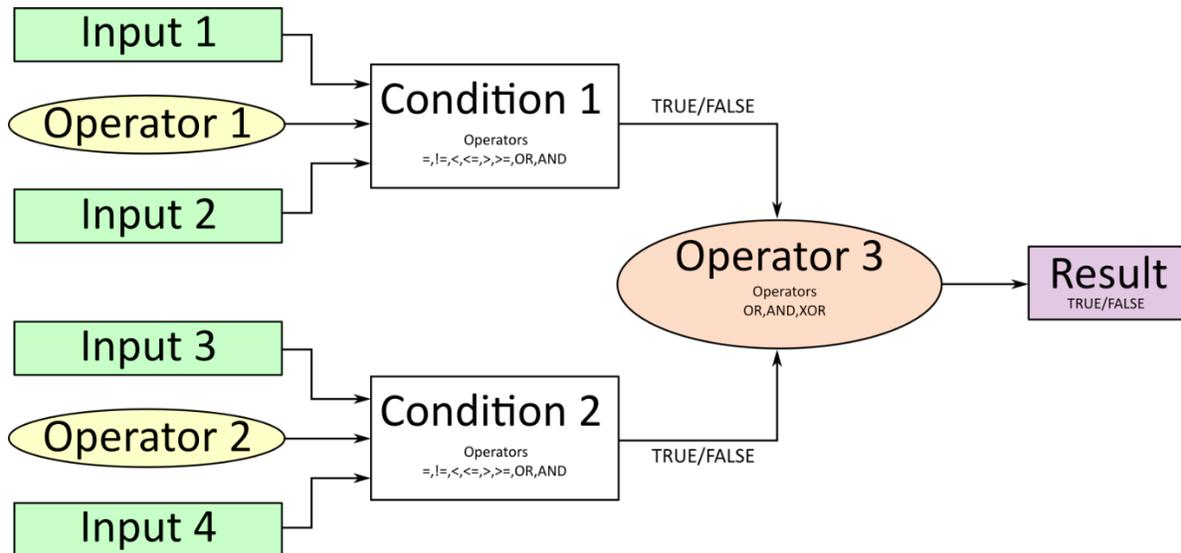

Figure 12 – Conditional Block Diagram
The Conditional Block compares up to four different input sources with different logical or relational operators. The result of each block can therefore only be **true** (1) or **false** (0). Figure 12 demonstrates the connections between all parameters.